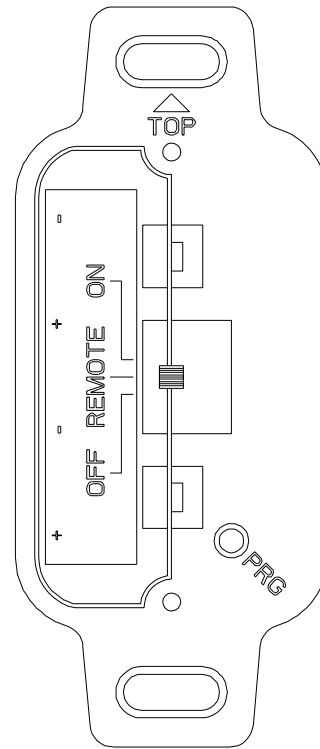

Figure 57.
3. Press the black initialization button (PRG) at the lower right of the battery box faceplate (fig. 57, page 29). The board will “beep” three times signalling a 10-second synchronization time limit.